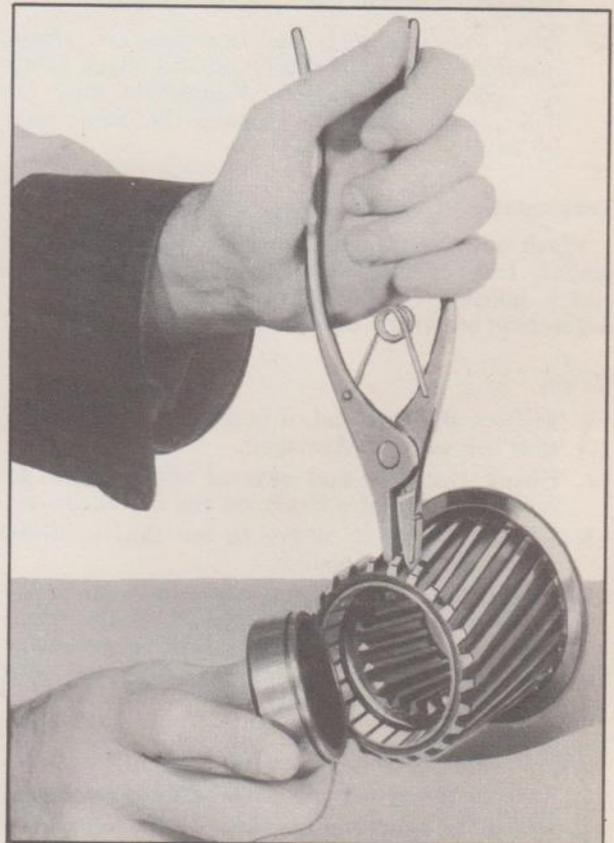

Fig. 9—Removing Synchronizing Ring from Second and Third-Speed Clutch
4. Using special pliers, J-932, expand the retainer into the counterbore in the clutch sleeve. This raises the retainer from the groove in the ring, and the ring may easily be slipped out, Fig. 9.
2. With the special pliers, J-932, expand the retainer, at the same time holding it flush with the back face of the cone. Install the synchronizer rings making sure that the retainers seat in the groove all the way around the rings, Fig. 9.